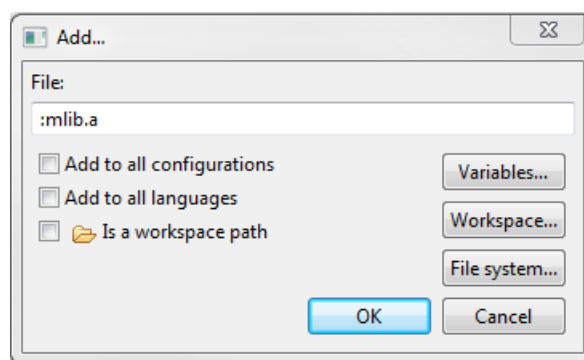

Figure 1-23. Library file inclusion
13. Type the following into the File text box (see Figure 1-23): :mlib.a